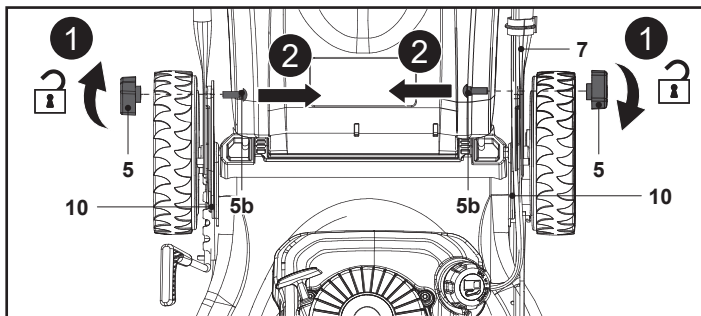

Fig. 10
1. Hold the handle assembly (4, 7) with one hand on the grip handle (1).
2. Unscrew the two locking knobs (5) on the handle brackets (10) and the lower handle bar (7) in an anti-clockwise direction, then take off the locking knobs (5) and the mounting bolts (5b) afterwards (Fig. 10, steps 1, 2).
3. Choose one of the other two mounting holes on the handle brackets (10) to assemble the handle assembly (4, 7). Ensure the handle assembly (4, 7) is assembled on the same height through two handle brackets (10).